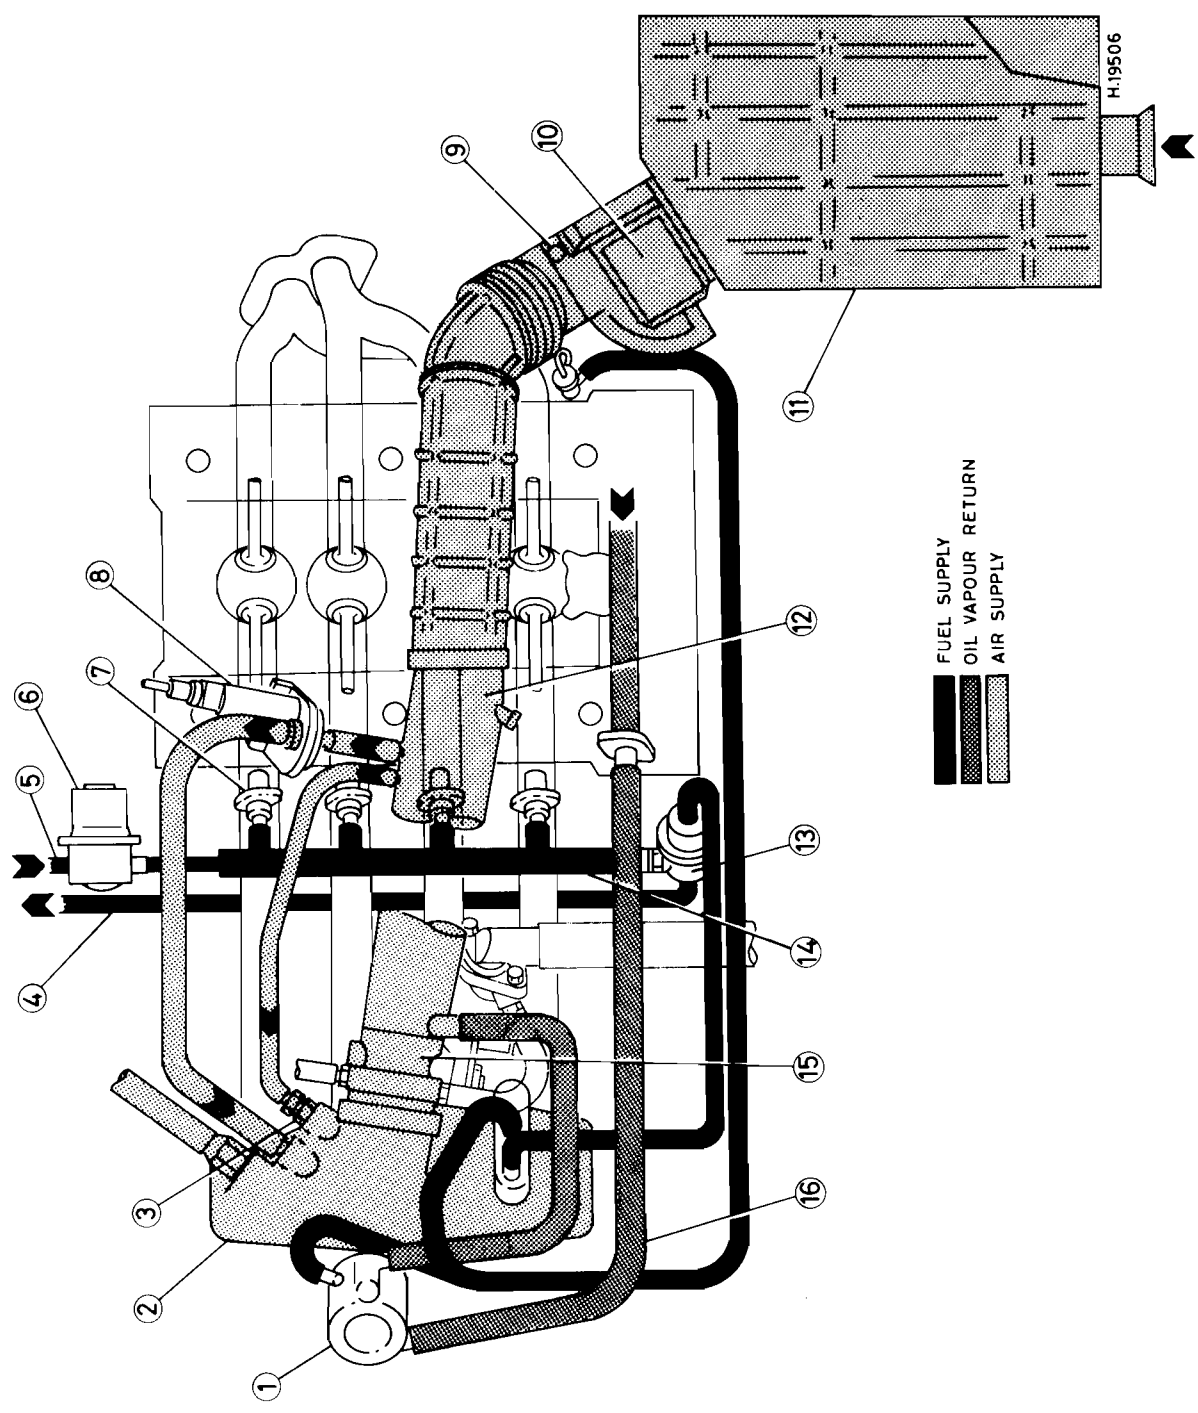

Fig. 13.9 Motronic fuel supply system (Sec 5)
29 Release the locknut and turn the control device union (3) which is located on the air intake box (Fig. 13.9). Once the specified idle speed is achieved, tighten the locknut.